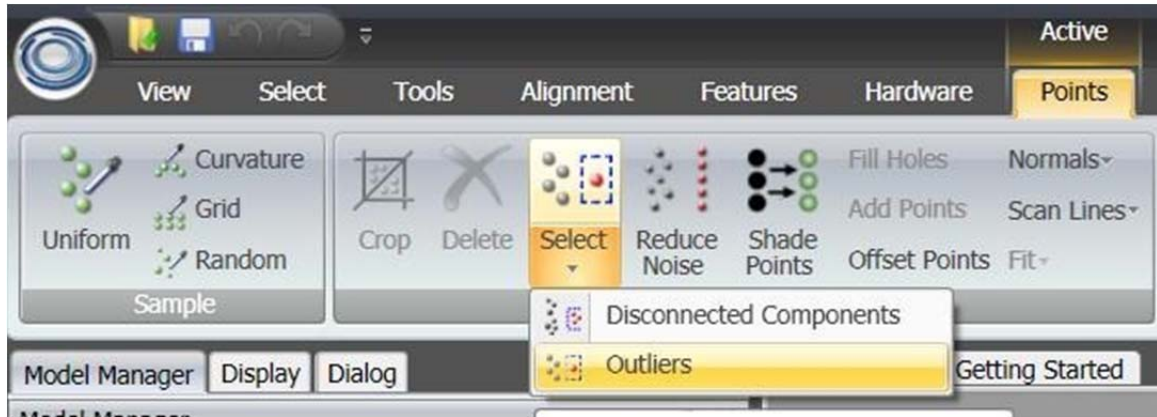

Figure B-12. Select Outliers Command
17. Use the Select Outliers option under the Points tab to select all points that are deemed outside the model (Figure B-12) – you can also select them manually with the lasso tool – selected points will be red and will be deleted upon command execution.